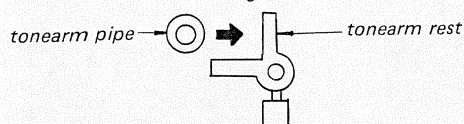

Fig. 3-2.
4. After the adjustment, confirm that the tonearm smoothly returns to the tonearm rest as shown in Fig. 3-2.